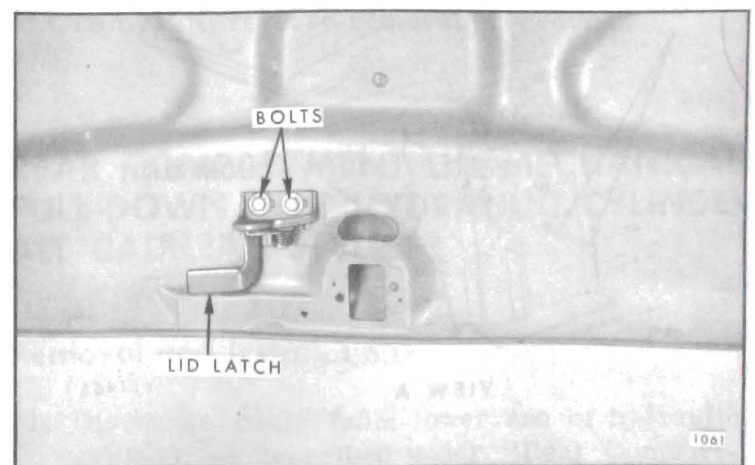

Fig. 9-16—Engine Compartment Lid Latch Assembly
2. Remove two bolts securing latch to engine compartment inner panel and remove assembly from body. (See Fig. 9-16.)